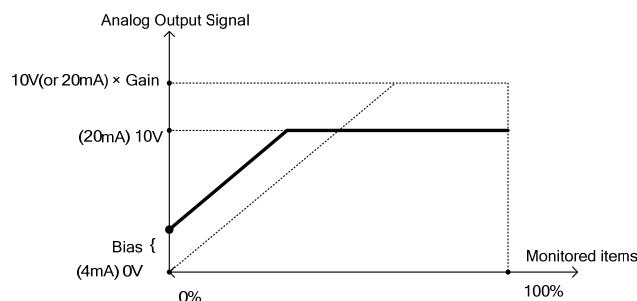

Figure 4.3.51 Analog output level adjustment
- Please refer fig 4.3.51 for analog output level adjustment.